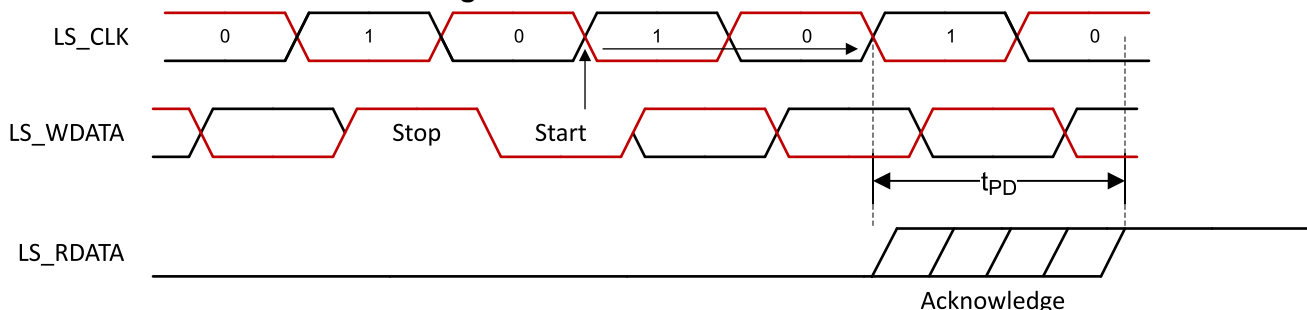

图 6-10. LPSDR Read Out
- (1) Device electrical characteristics are over Recommended Operating Conditions unless otherwise noted.
- (2) See 图 6-10 and 图 6-11